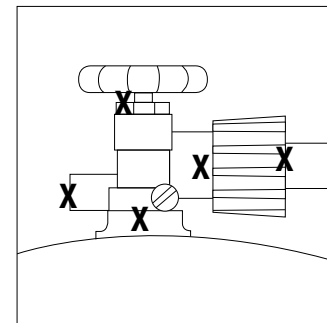

Figure 4
- a. Access the burner through the hole in bottom bowl or side as indicated (Figure 4).